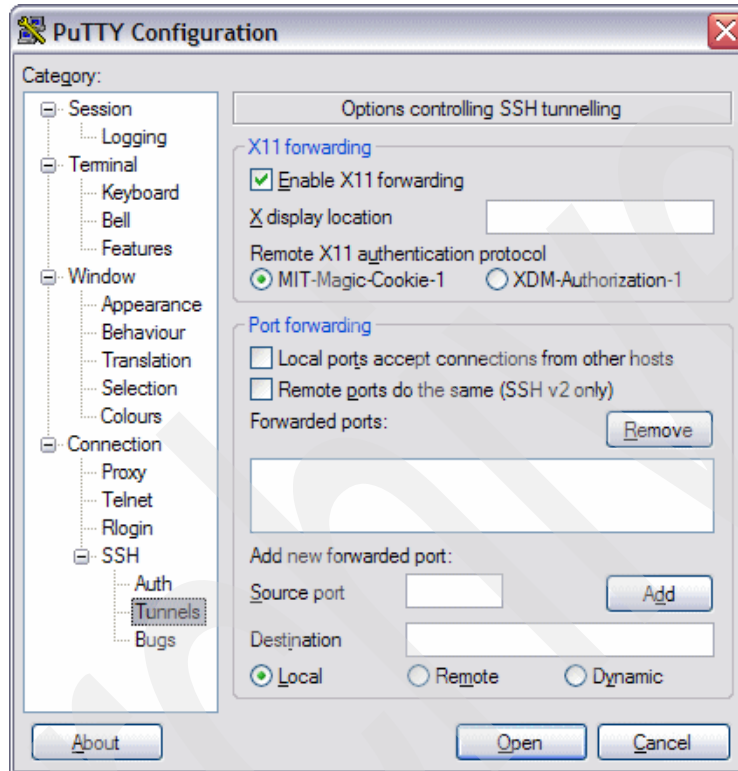

Figure 3-5 Configuration X11 forwarding in PuTTY
- Now you can establish a SSH session to the DR550 SSAM Server from where you need the graphical output. Use a SSH client of your choice to connect to the DR550 SSAM Server and log in to the AIX operating system. Make sure that X11 forwarding is enabled in your SSH client configuration. If you use the PuTTY SSH client, you will find this at **Connection** → **SSH** → **Tunnels**. Check the **Enable X11 forwarding** box and save the settings in your session profile (see Figure 3-5).